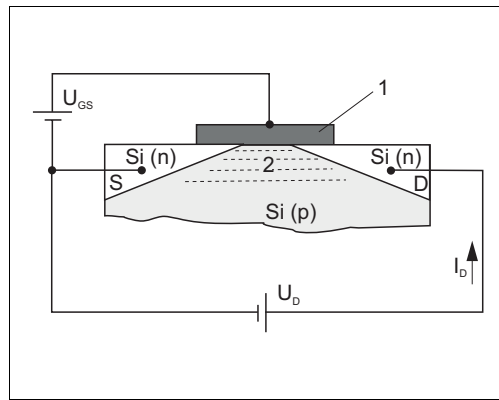
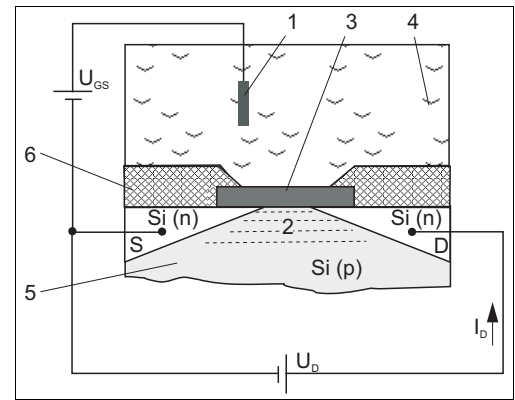

Fig. 1: Principle MOSFET
Fig. 2: Principle ISFET
Ion-selective field effect transistors use an MOS¹⁾ transistor arrangement (→ Fig. 1) where the metallic *gate* (pos. 1) is not a control electrode. Instead, the medium (→ Fig. 2, pos. 3) in the ISFET is in direct contact with the gate isolator layer (pos. 2). Two strongly N-conducting areas are diffused in P-conducting substrate (→ Fig. 2, pos. 5) of the semiconductor material (Si). These N-conducting areas are current supplying ("Source", S) and current accepting ("Drain", D) electrodes. The metallic gate electrode (in case of the MOSFET) resp. the medium (in case of the ISFET) forms a capacitor with the substrate below. A potential difference between gate and substrate (U_{GS}) causes a higher electron density between "Source" and "Drain". A N-conducting *channel* (pos. 2) is formed, i.e. a drain current (I_D) is induced.